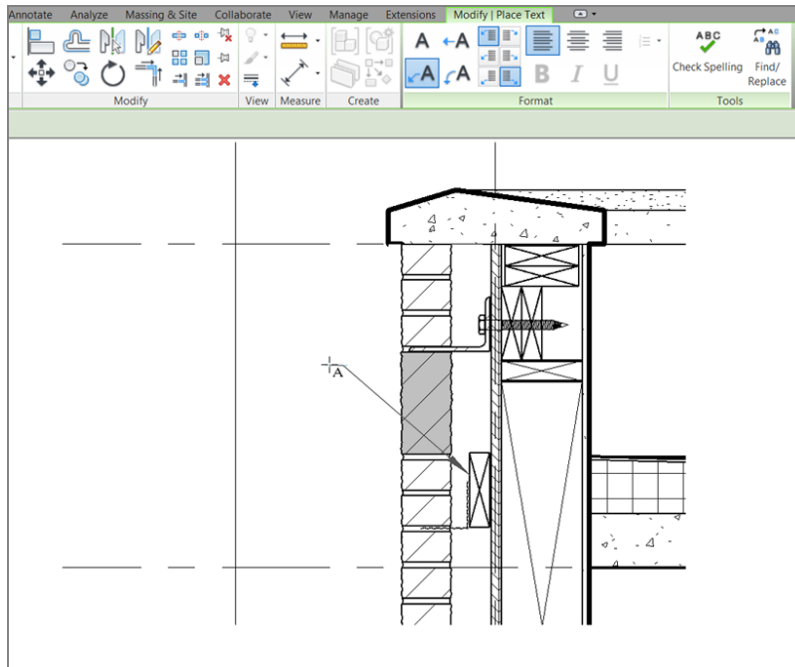

FIGURE 12.48: Adding the leadered text
2. The next three steps use the Format panel of the Modify | Place Text tab (see Figure 12.48). Click the Align Right button.
3. Again, on the Modify | Place Text tab, click the Two Segments leader (the uppercase A in the lower-left corner of the Format panel; see Figure 12.48).
5. In the section, pick the first point of the leader at the top of the brick tie detail (shown in Figure 12.48).
6. Pick the second point above and to the left of the first point (shown in Figure 12.48).
7. Pick the third point for the second segment (as shown in Figure 12.48).